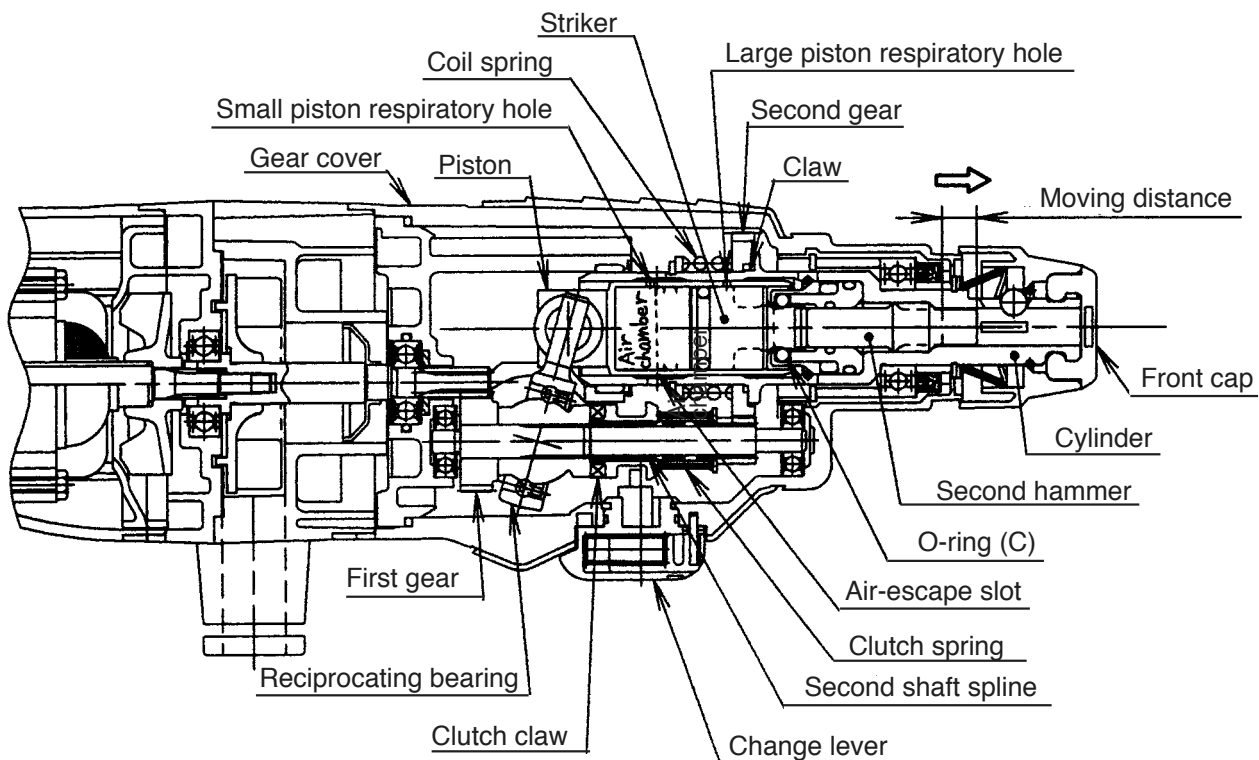

Fig. 6
The idle hammering prevention mechanism in the Model DH 24PD3 is different from that of conventional rotary hammers. When the drill bit is lifted from the concrete surface on completion of drilling, the second hammer moves to the position indicated by the continuous lines in Fig. 6, and the protruding (lip) portion at the tip of the striker is gripped by O-ring (C) mounted between the hammer holder and the damper holder. In this state, should the piston continue to move so that the small piston respiratory hole is blocked by the inner wall of the cylinder, the air in the air chamber will pass through the large piston respiratory hole and be released through the air-escape slot and large cylinder respiratory hole provided on the inner wall of the cylinder. Accordingly, there is no change in the air pressure within the air chamber, and movement of the striker (idle hammering operation) is prevented. The gripping force of O-ring (C) on the striker is so small in comparison with the conventional mouth system that practically no pressing force at all is required to restart the hammering operation.